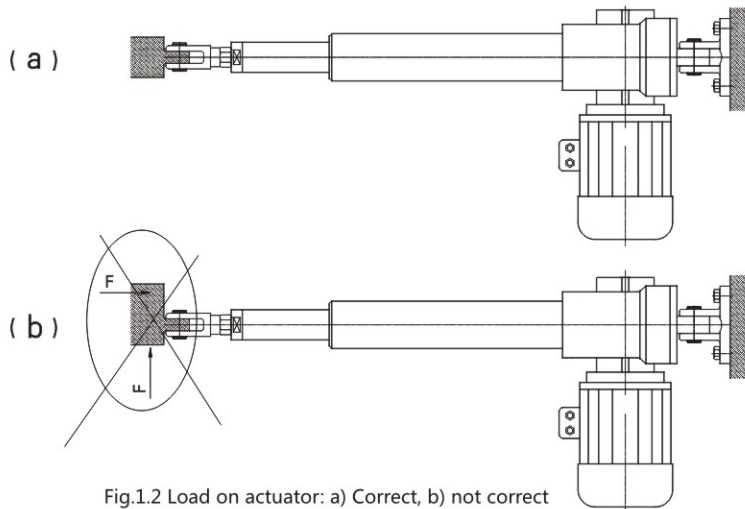

Fig.1.2 Load on actuator: a) Correct, b) not correct
1.1.3 Fit the actuator to the plant in order to have ONLY axial load applied to the actuator (see Fig. 1.2).